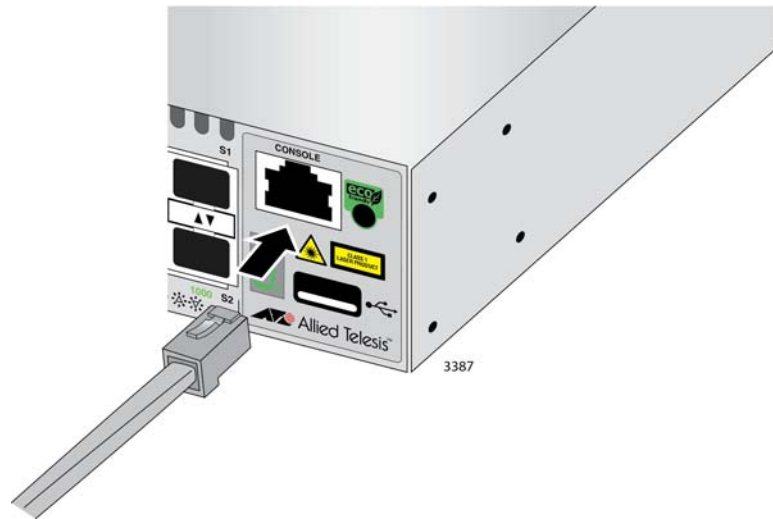

Figure 49. Connecting the Management Cable to the Console Port
1. Connect the RJ-45 connector on the management cable to the Console port on the front panel of the switch, as shown in Figure 49.